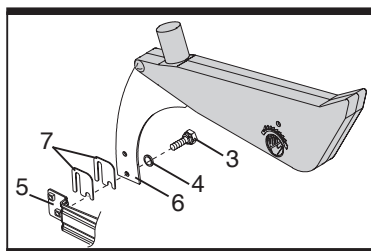

Fig 7
- Loosen the two bolts (3) from the riving blade bracket (5).
- 2) Insert the supplied spacers (7) between the riving blade (6) and bracket (5).
- 3) Retighten the two mounting bolts (3) securely.
- 7) Replace the table insert. (See fig. 7).